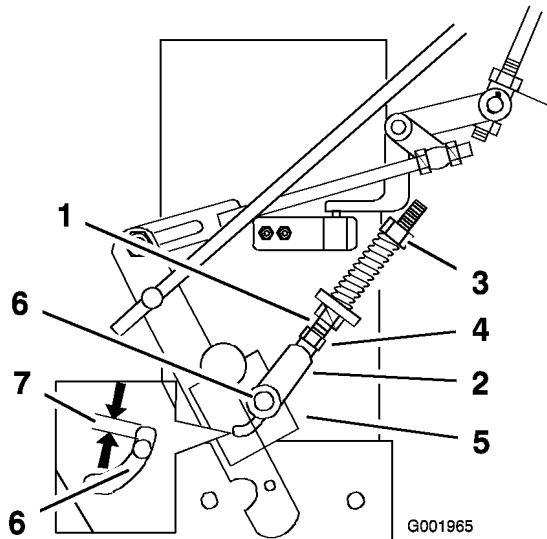

Figure 46
3. Loosen the nut against the yoke Figure 46).
4. Adjust the length of the neutral stud and yoke assembly so the clevis pin does not contact the back of the slot in the control arm bracket Figure 46).
5. Tighten the nut against the yoke Figure 46).